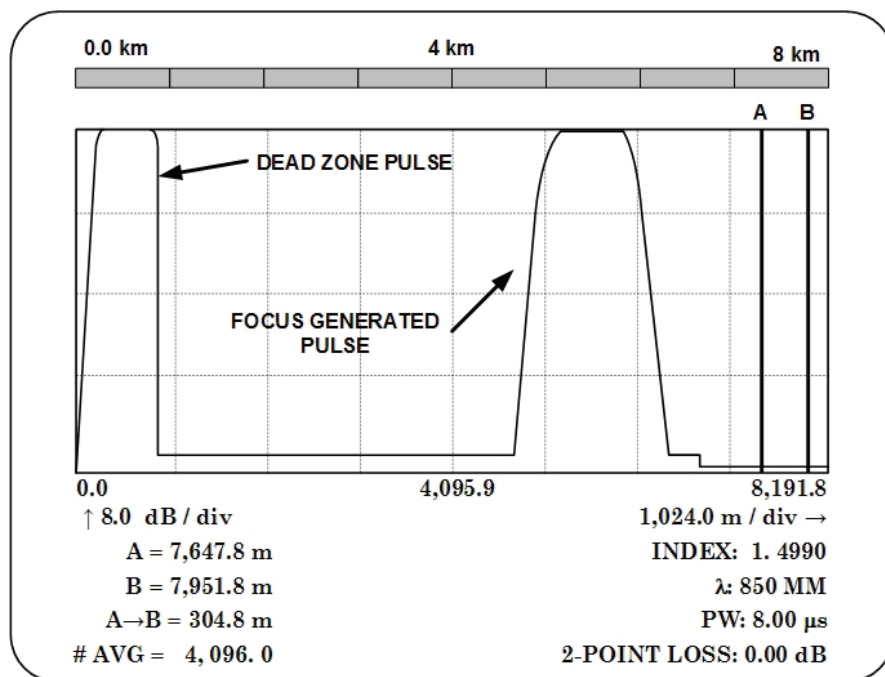

Figure 8. Example of FOCUS generated pulse equal to dead zone pulse amplitude (TD-260C).
- (11) Press **TI DISPLAY FROM** pushbutton to select **ORIGIN**.
- (12) Use technique of 8 a (2) above to set **TI NEW LEN/RES** to **8.0 km/0.5m**.
- (13) Press **PULSE WIDTH** pushbutton to select **LONG**.
- (14) Set **FOCUS-SWCM SWITCHED ATTN** switch to **OUT**.
- (15) Press **REAL TIME** pushbutton.
(16) Adjust **FOCUS-SWCM VAR ATTN 1** control until **FOCUS GENERATED PULSE** has approximately same amplitude as dead zone pulse as displayed on TI (fig. 8).